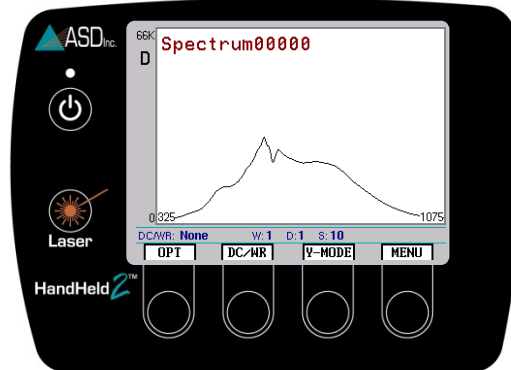

Figure 2-9: DC/WR Button
- Step 2 While the HandHeld 2 instrument is viewing the white reference panel, press the DC/WR button (Figure 2-9).